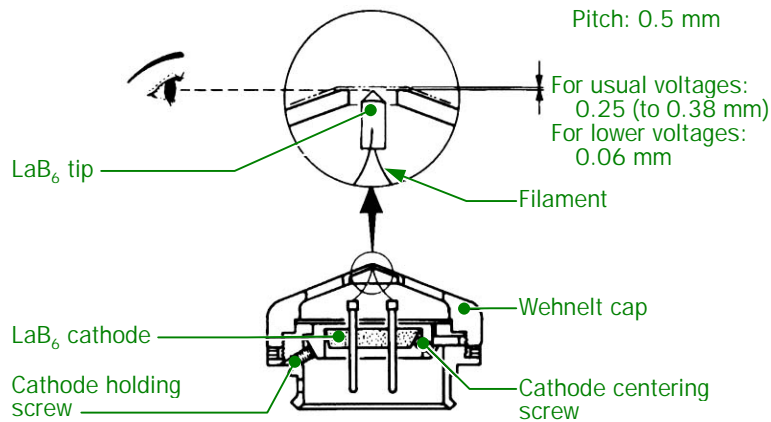

Fig. 6.3 LaB₆ cathode Wehnelt unit
4. Adjust the height of the Wehnelt cap and center the LaB₆ cathode (☞ see Fig. 6.3).
4. Adjust the cathode centering screws (3 pcs.) so that the LaB₆ tip is centered within 50 μm of the center of the Wehnelt cap hole (Fig. 6.3).